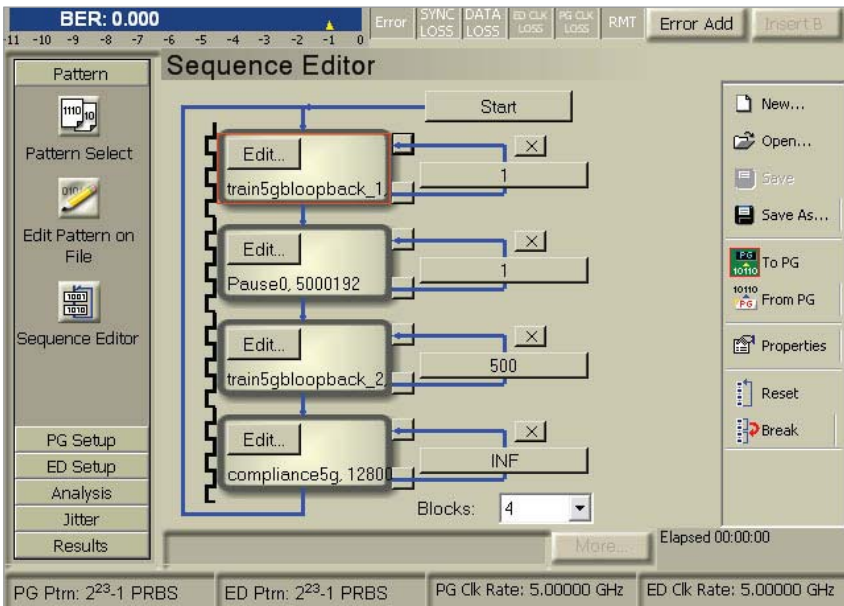

Figure 12. J-BERT test sequence and patterns for calibration and test
- Data rate 5 Gbit/s, set up the depicted sequence with the appropriate test patterns and start the sequence manually (Figure 12)
- Enable jitter, external jitter, PJ and sinusoidal interference (SI):
- Set error detector (ED) to differential mode and external clocking
- Stop J-BERT by pressing <Reset> button in sequence window (Figure 12)
- Start J-BERT by pressing <Start> button in sequence window (Figure 12)
- Make a BER measurement with a BER target of 10^{-12} and a confidence level (CL) of 95%. Compliance is achieved when no errors occur for approximately 3×10^{12} bits or 10 minutes (for a data rate of 5 Gb/s)